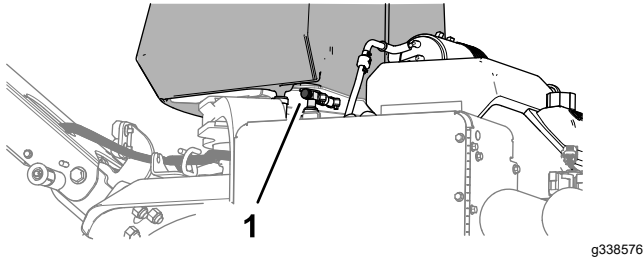

Figure 79
5. If you are hauling or storing the machine, close the fuel-shutoff valve (Figure 79).